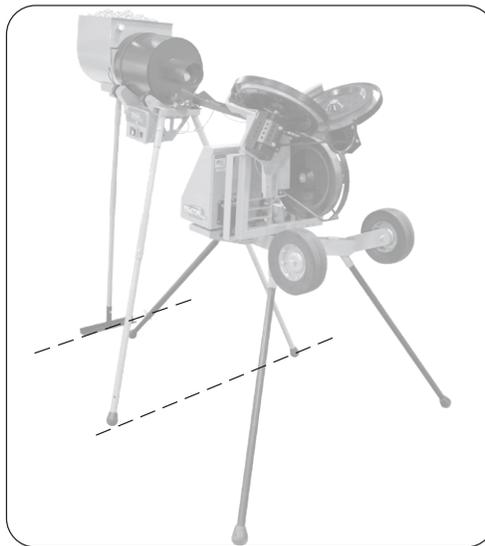

Fig. 1 Rear leg is parallel to the front legs.
1. Make sure rear leg is aligned with both front legs (see Fig. 1).